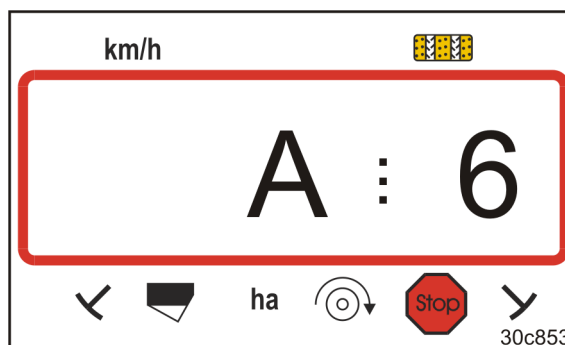

Fig. 32
- the display (Fig. 32) appears